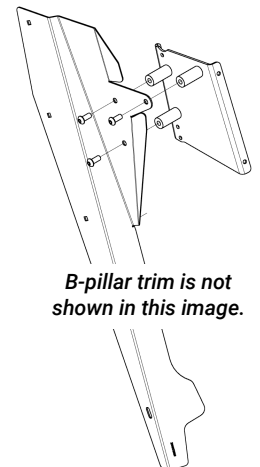

Figure 3
- A. Locate the Driver Mounting Plate [3PAK472010] and (3) button head screws [3X149].
- B. Align the (3) holes in the plate with the (3) standoffs protruding through the B-pillar trim and loosely secure with the button head screws (Fig 3). The fasteners will be tightened in a later section.